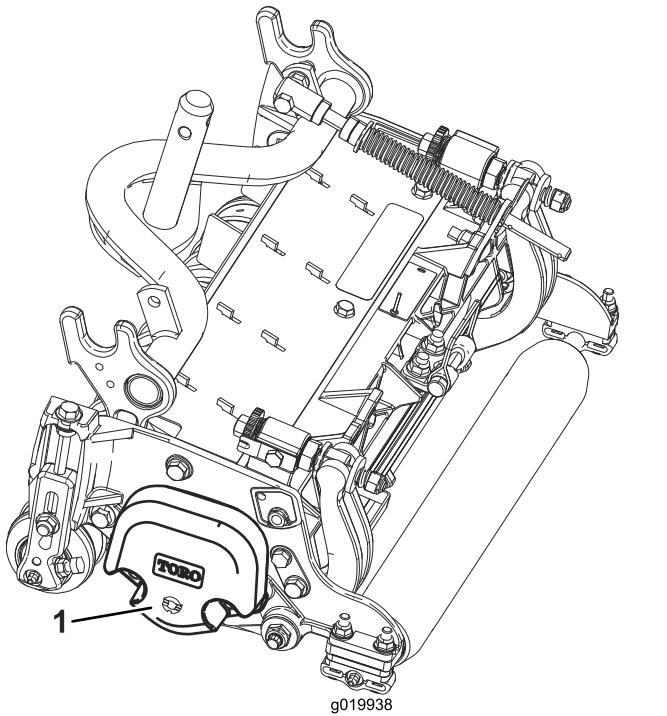

Figure 3
4. Make sure that the counterweight (Figure 3) is installed to the proper end of the cutting unit as described in the cutting unit *Operator's Manual*.